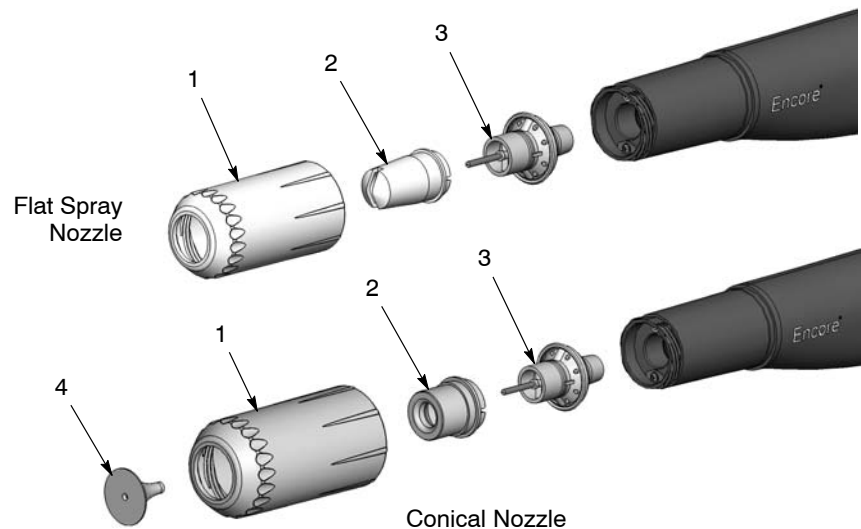

Figure 1 Removing the Nozzle from the Spray Gun
2. See Figure 1. If using a conical nozzle, remove the deflector (4). Unscrew the nozzle nut (1) and remove it, the nozzle (2), and the electrode holder (3) from the spray gun.